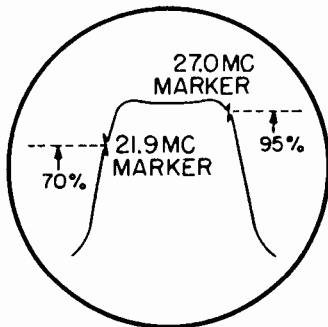

FIGURE 8 - IF BANDPASS RESPONSE
9. Adjust primary (top core) and then secondary (bottom core) of IF Bandpass T58 to obtain curve shown in Figure 8.